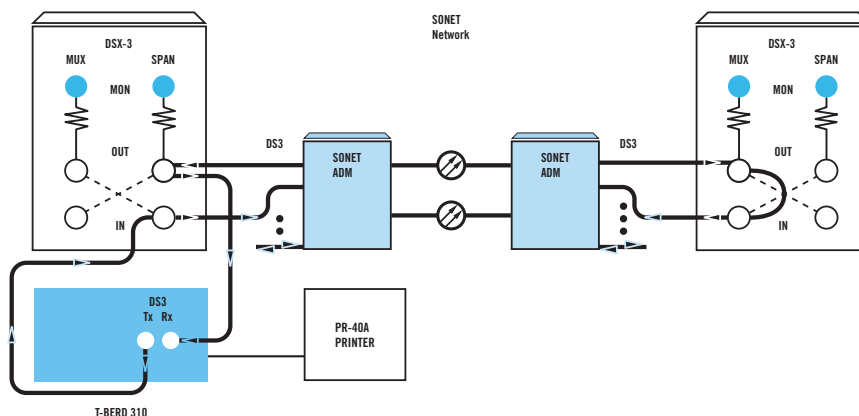

Figure 14 Connecting the T-BERD 310 for out-of-service testing
1. Loop back the far-end of an out-of-service DS3 span at the DSX patch panel, as shown in figure 14.